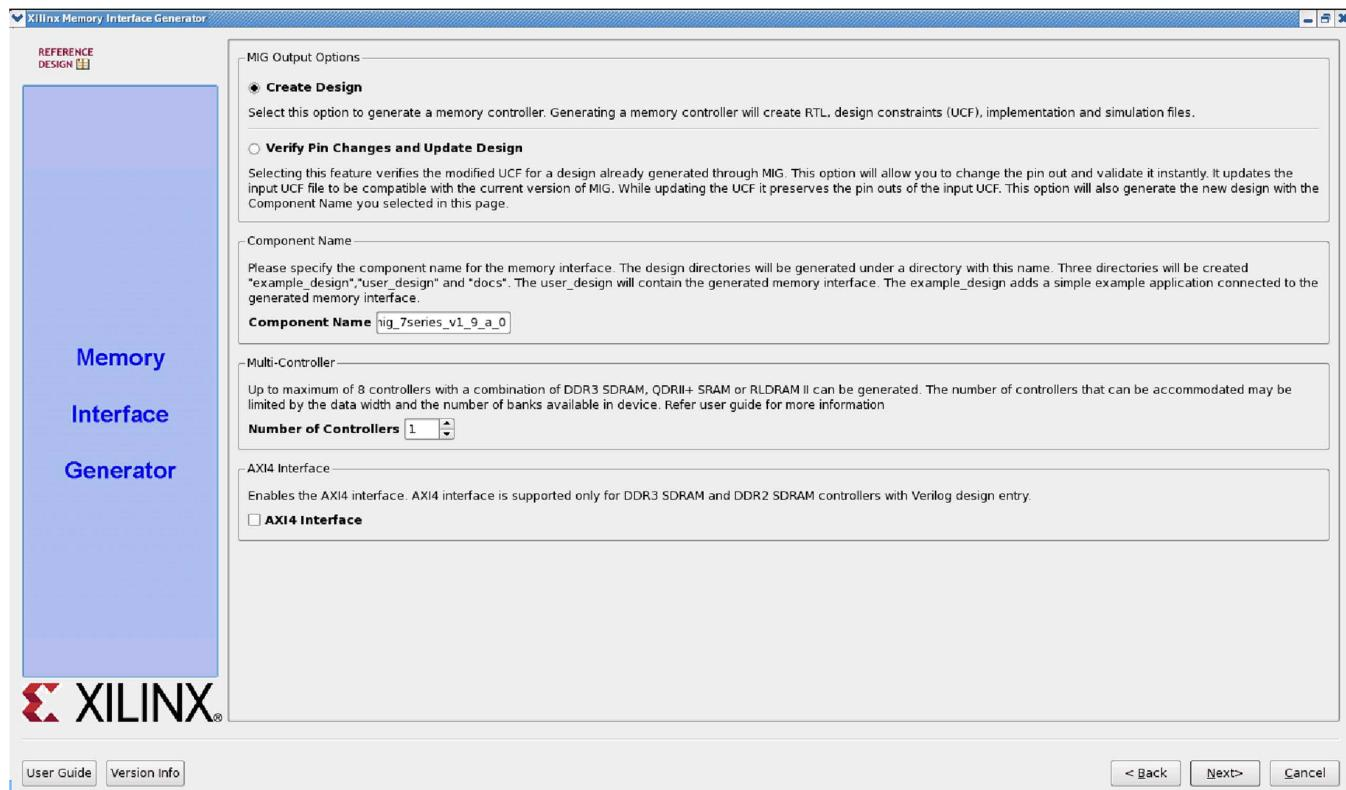

Figure 4-2: MIG Output Options
1. Select the **Create Design** radio button to create a new memory controller design. Enter a component name in the Component Name field (Figure 4-2).